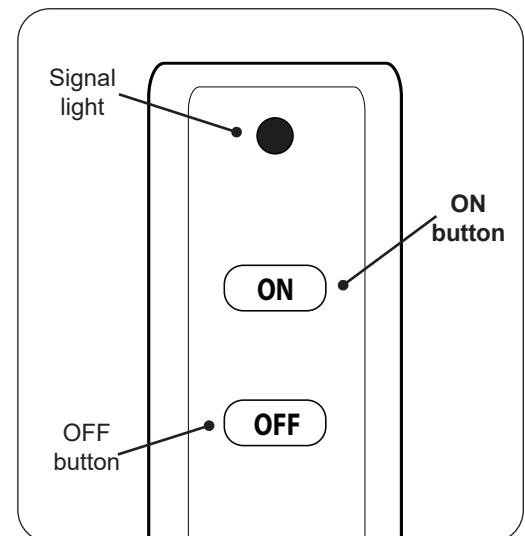

Fig. 29-2 Remote transmitter detail
2. Locate the remote transmitter and press the **ON** button (see Fig. 29-2). The ignition sequence will begin.